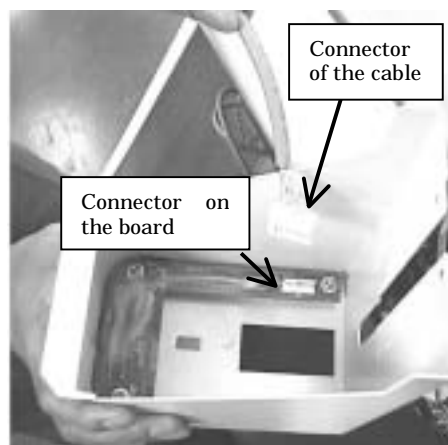

Fig. 5-3 Wiring to the photo-receptor for the remote controller option
2. Connect the attached cable to the photo-receptor for the remote controller (Fig. 5-3).